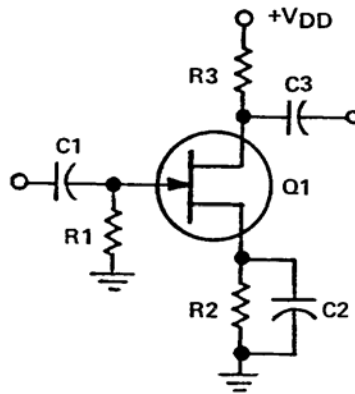

Figure D-1. Common Source Amplifier
a. Distorted Outputs. Refer to Table D-1 and the explanation of the base bias resistor in Figure D-1.
(1) Notice that the base bias resistor affects the Q Point on the load line, which in turn will affect the class of operation of the amplifier.
(2) Another component that can affect the class of operation of the amplifier is the swamping resistor. When the swamping resistor shorts, the emitter is referenced to ground and the base voltage will thus change to roughly 0.7V above the ground reference. This means that the Q point will be 0.7V (C3 can cause the same problem when shorted).
(3) The components that can cause a change in the output as far as class or operation are R1 (base bias resistor), R4 (swamping resistor if shorted), and the transistor itself.
a. **Review of Component Functions.** Before we discuss waveform troubleshooting of an FET amplifier, we will review the basic component functions of the common source amplifier. Refer to Figure D-1 for the following explanation. R1 develops the input signal, R2 provides self bias for Q1, R3 develops the output as the load resistor for Q1, C1 couples the input signal to the gate of Q1, C2 is the bypass capacitor to prevent inverse current feedback, C3 couples the output from Q1, and Q1 is the active component responsible for the amplification and the phase shift.